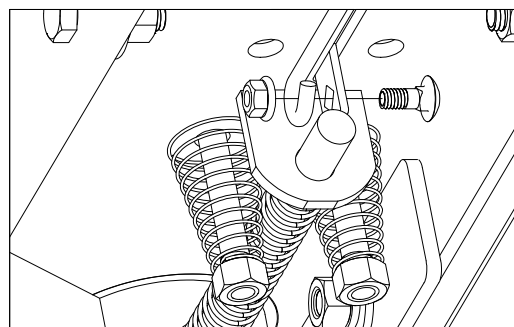

Figure D1: View under center section.
1. **Insert the handle.** Install the latch pin release handle by inserting it through the slot in the end of the center section on the driver side of the truck. Align the handle eyelet with the square hole in the latch pin so the handle is in line with the latch as shown in Figure D1.
2. **Secure the handle.** Secure the handle to the pin with the 5/16" X 3/4" carriage bolt and 5/16" locking flange, see Figure D1. Note: The included 5/16" cap screw can replace the carriage bolt if wrench access on the "cab side" of the handle is limited. Tighten the nut until it is secure. Do not over-tighten and deform the handle eyelet.